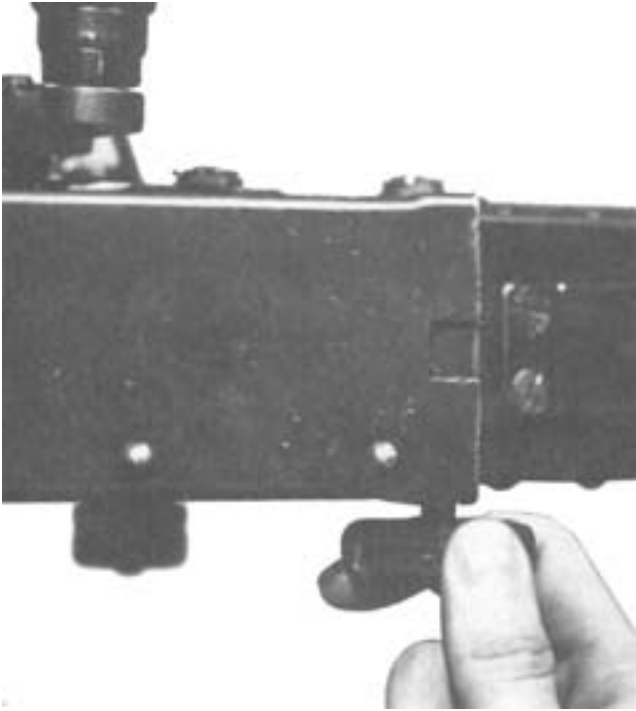

Figure 4-4. Raising the Cover.
- b. Barrel Group.** Turn the cover latch and raise the cover (see figure 4-4). Grasp the retracting slide handle with the right hand, palm up, and pull the recoiling